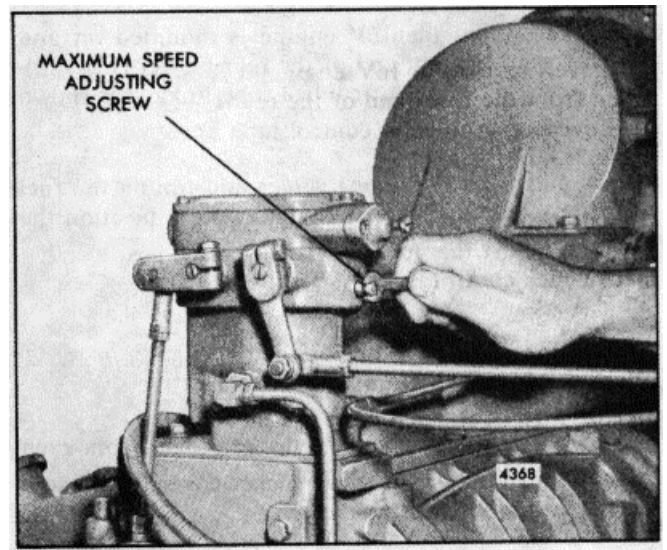

Fig. 10. - Adjusting Maximum No-Load Engine Speed
6. Loosen the locknut on the maximum speed adjusting screw and turn the screw out until 5/8" of the threads are exposed (Fig. 10).
2. Turn the maximum speed adjusting screw (Fig. 10) in until the screw contacts the throttle linkage internally, limiting the maximum speed of the engine at 8% above the rated full-load speed.